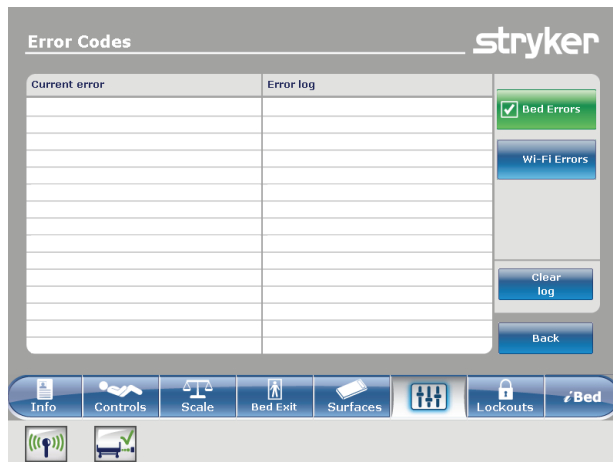

Figure 60: Error Codes
**Error Codes:** Displays the current active errors and the error log (Figure 60 on page 74). See the **InTouch** maintenance manual for the definition of the error codes.